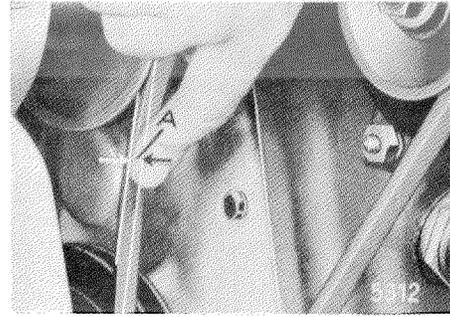

Figure 20-15/3
1. Drive out the centering ring (1) toward the front with hammer punches to the fan bearing bracket (10) (see Figure 20-15/4).
2. Unscrew the hex nut (2) and remove the Woodruff key (3).
3. Pull the fan bearing bracket (10) out of the fan hub (6).
9. Put the mounting bar (11) over the left-hand fixing stud and fix it with a lock washer, a standard hex nut (1) and a hexagon screw (13) (see Figure 20-15/1).
11. Screw the fan (8) to the belt pulley (9), with 4 screws and 4 spring washers (see Figure 20-15/1).